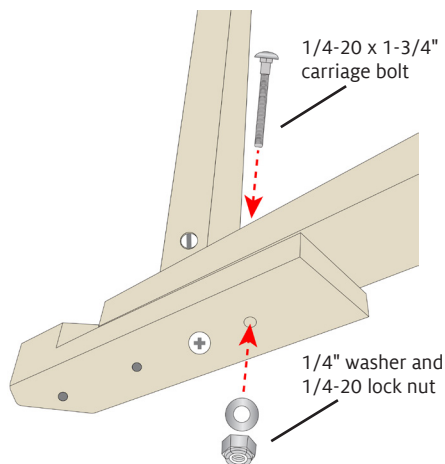

FIGURE 4: FINISH ATTACHING OUTSIDE BLOCKS
5. Finish attaching the height extender blocks: From inside the loom, insert a 1/4-20 x 1-3/4" carriage bolt into the hole of the left outside leg, then through the top hole of the LO height extender block, as shown in Figure 4. Place a scrap of wood over the carriage bolt and hammer the bolt into the leg with a mallet or hammer.
6. From the outer side of the height extender block, add a 1/4" flat washer and a 1/4-20 lock nut to the shaft of the carriage bolt (Figure 4). Use a wrench to tighten the lock nut as firmly as possible.